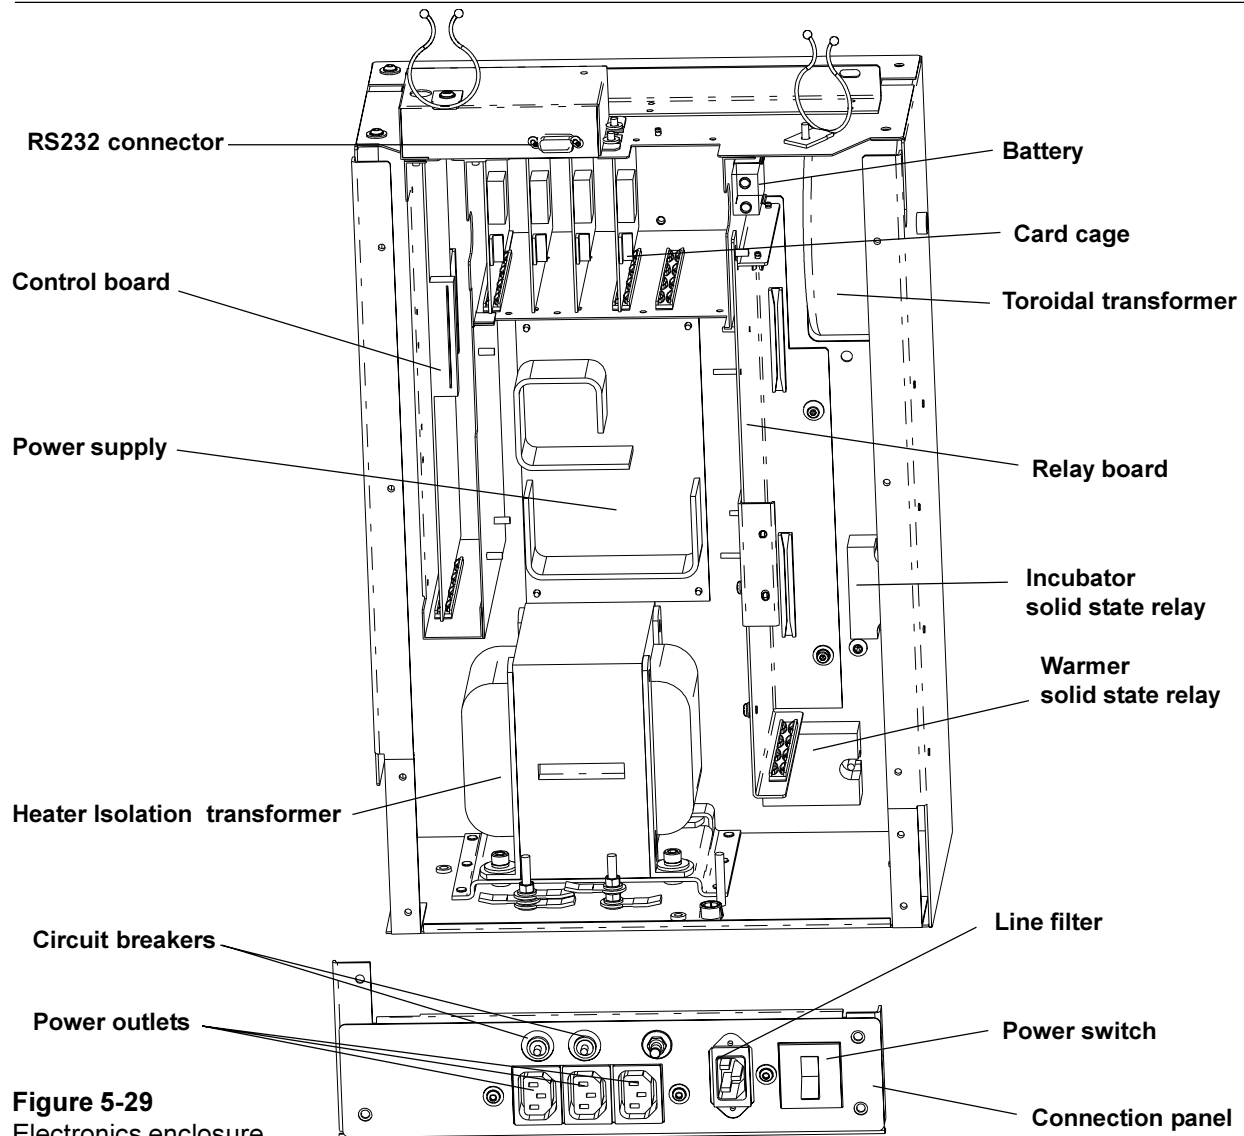

Figure 5-29
5.113 Controller Components (Figure 5-29)